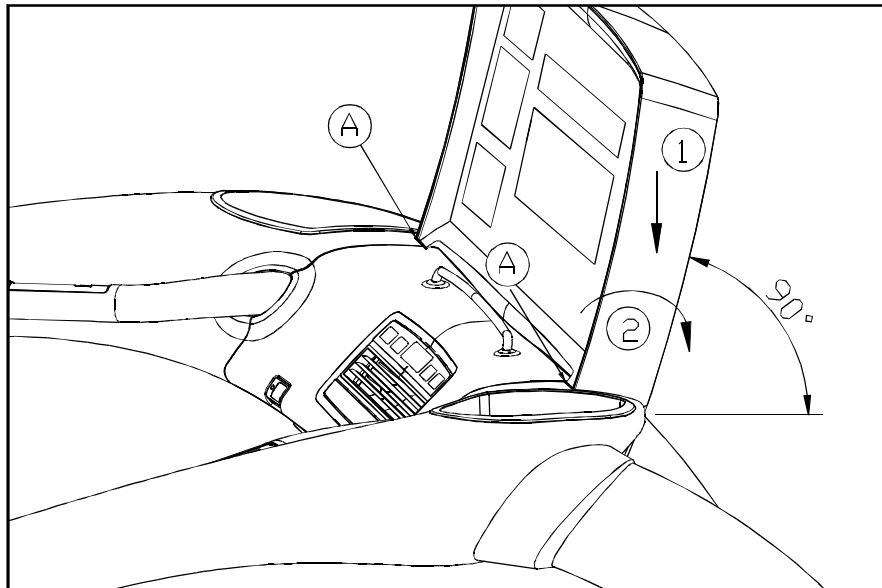

Fig.7
**STEP 2.** Rotate the display upward and fit it onto the handlebars. Using points (A), pivot the display back without pinching the wires. (See Fig. 7.)